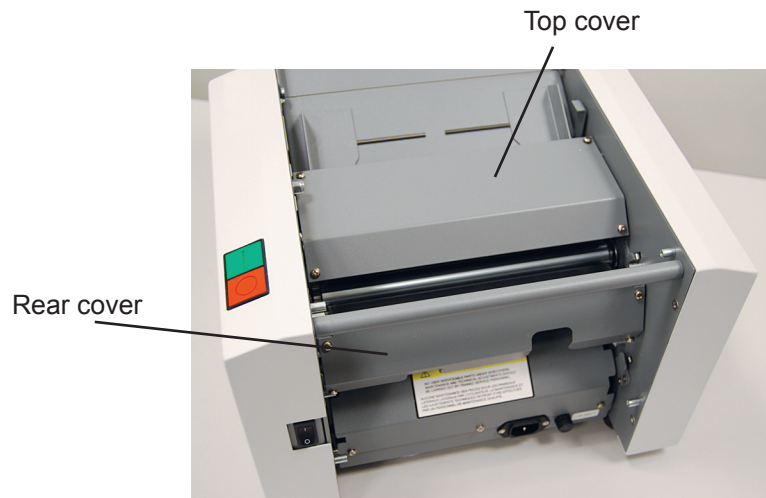

Fig. 8
1. If toner builds up on the metal sealer rollers, clean the rollers with a lint-free cloth dampened sparingly with a mild household cleaner. To access the rollers remove the upper and lower fold plates and top and rear covers, a Phillips head screwdriver is needed to remove covers (Fig 8).